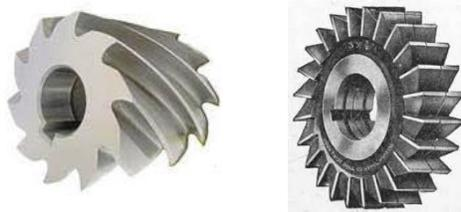

Figure Mill-8: horizontal milling cutters
- e) Hold collets on the arbor through arbor key, and between the collets, hold a the cutter in a right position according to the machining position. See figure Mill-8.